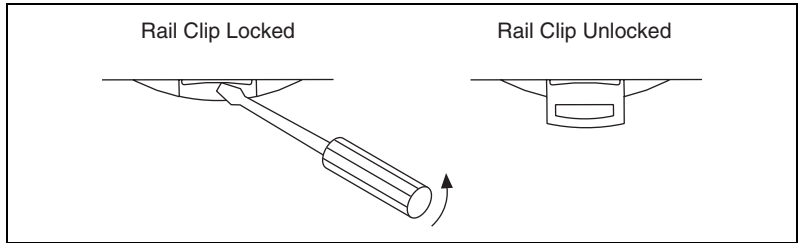

Figure 3. DIN Rail Clip
1. Use a flathead screwdriver to open the DIN rail clip to the unlocked position, as shown in Figure 3.
3. Slide the FBUS-HSE/H1 LD to the desired position along the DIN rail. After the FBUS-HSE/H1 LD is in position, lock it to the DIN rail by pushing the rail clip to the locked position, as shown in Figure 3.